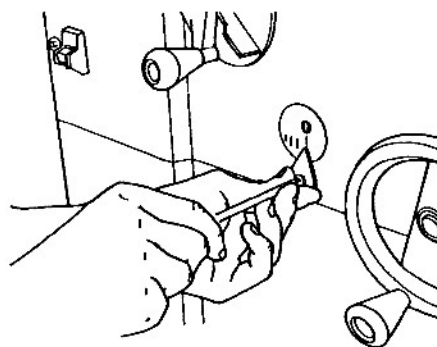

Fig. B-36
34. Use a medium Phillips screwdriver to loosen the screw attaching the tilt indicator. Set the pointer on "0" and re-tighten the screw. See Fig. B-36.